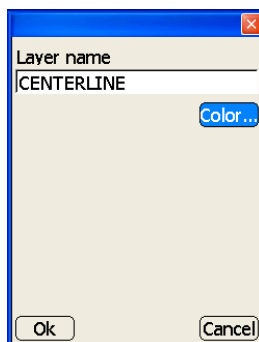

Figure 3-78. Layers Parameters
- **New** – on the *Layers* dialog box, press **New** to create a layer, then press **Ok** to save the information (Figure 3-78). Enter a layer name and select it's color, then press **Ok** to save.